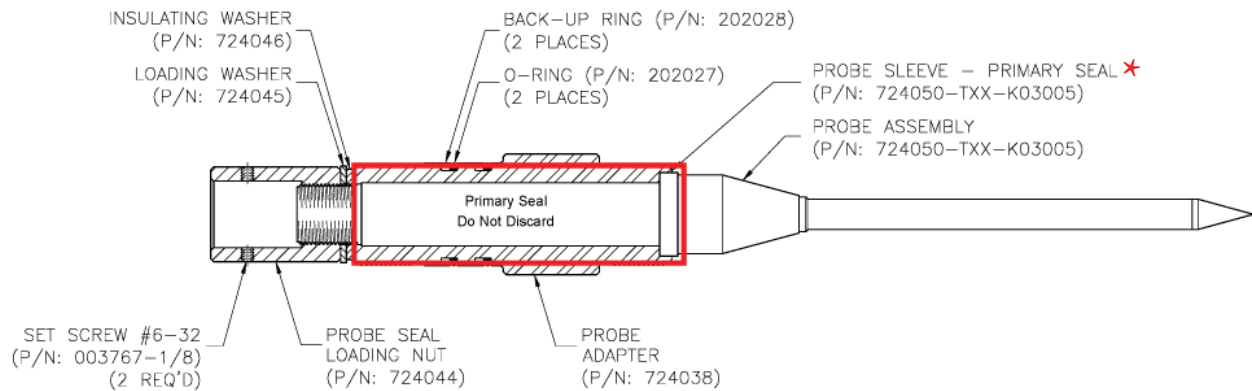

Figure 4.4 Probe Assembly Attached to Probe Adapter
Step 3: Attach Probe Assembly to Probe Adapter. (See Figure 4.4)